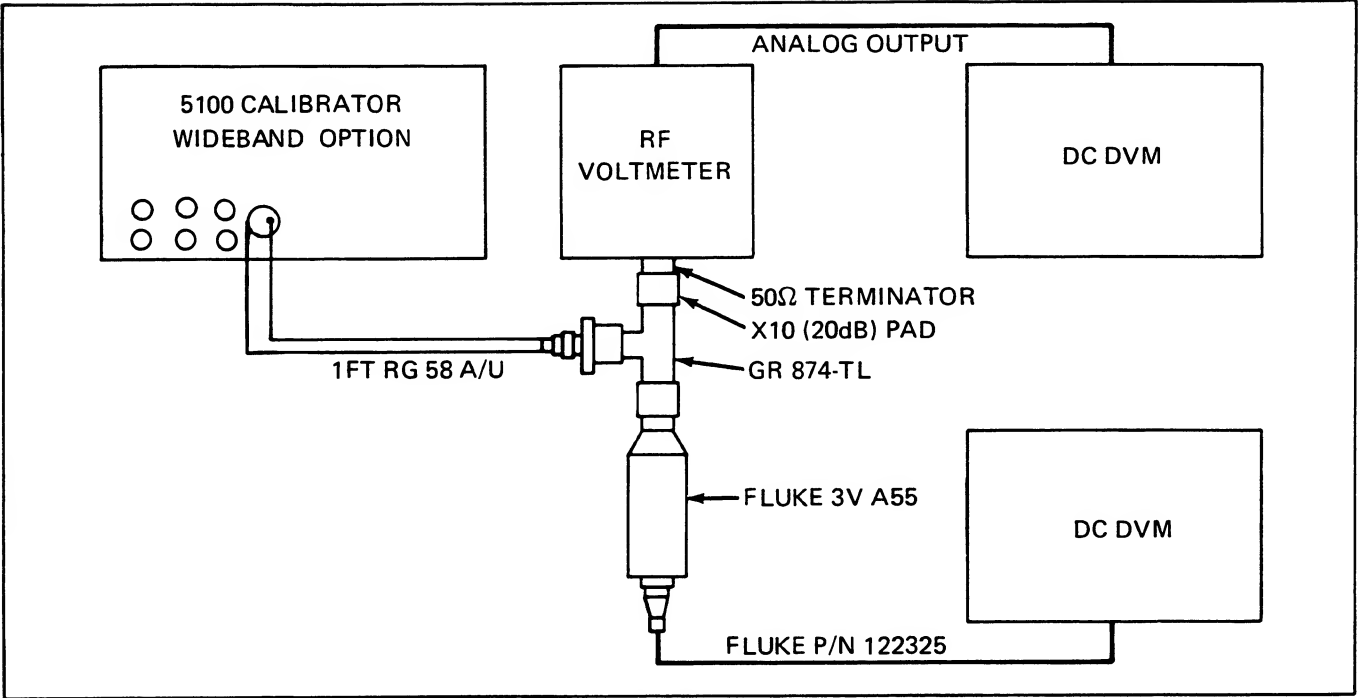

Figure 603-4. Wideband Flatness Tests Characterization
1. Connect the equipment as shown in Figure 603-4.